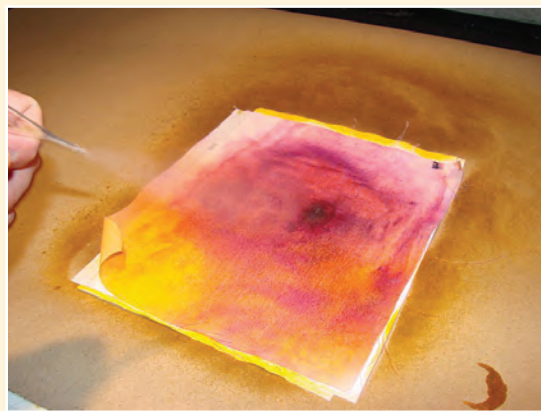

Figure 15.23 Spraying a 3-inch target with buffer solution
3. Then spray with the **buffer** solution and note the colors (Figure 15.23).